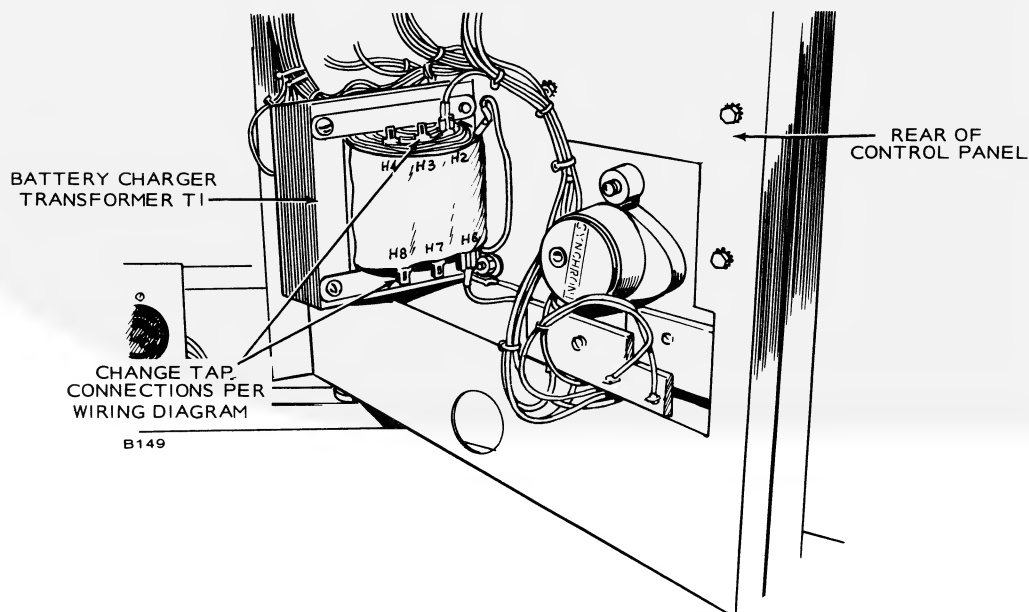

FIGURE 6. BATTERY CHARGER TRANSFORMER AC CONNECTIONS
7. Rewire battery charger transformer T1 (if control panel has battery charger) so the wire from F1-2 and T1-H5 (COM) go to the appropriate connections on the transformer for the nominal AC voltage (Figure 6). See the wiring diagram for the correct connections.